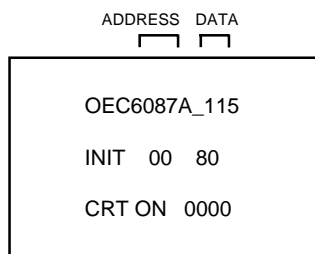

FIG. 1
3. Press both VOL. DOWN button on the set and Channel button **(6)** on the remote control for more than 2 seconds. ADDRESS and DATA should appear as FIG 1.